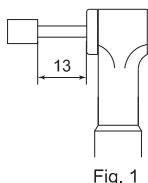

Fig. 1
- ④ Do not touch the cutting tool while it is rotating. It is very dangerous.
- ⑤ Wear safety glasses, dust mask, and use a protective cover around the Attachment whenever the Attachment is rotating.
- ⑥ When installing a cutting tool, tighten the collet correctly and check again the collet before use. Do not over-tighten the collet. This may cause damage to the spindle.
- ⑦ Do not use grindstones with an outside diameter over $\phi 40$ mm.
- ⑧ Do not exceed 13mm of overhang for mounted grindstones as shown in Fig. 1. If the overhang must exceed 13mm, reduce the motor speed in accordance with Table 1.
- ⑨ Do not use bent, broken, chipped, out of round or sub-standard cutting tools as they may cause shatter or explode.